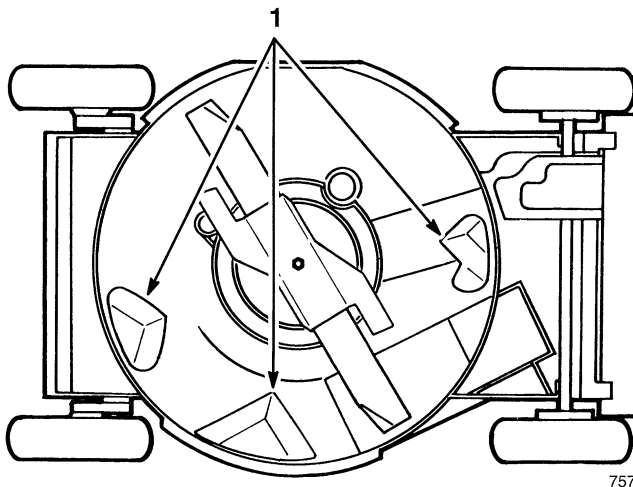

Figure 31
Keep underside of mower housing clean. Be especially careful to keep kickers free of debris (Fig. 31).
3. Tip mower on its right side (Fig. 31).